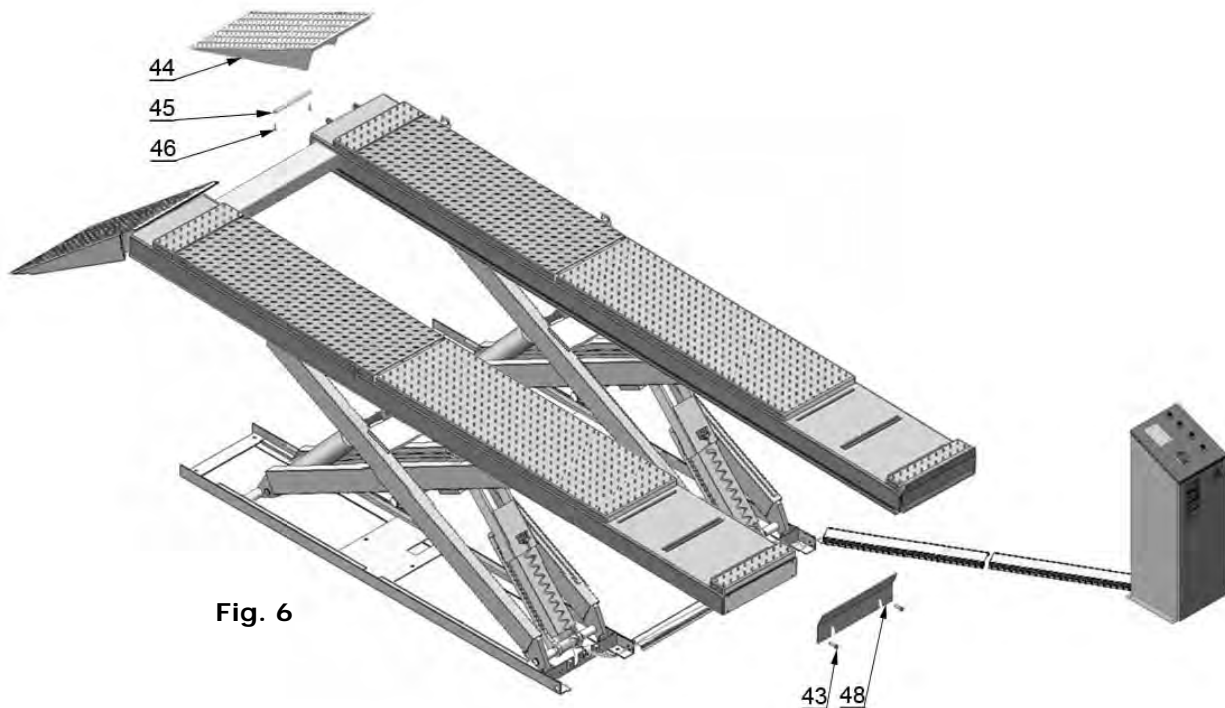

Fig. 6
1.3 Illustration of scissors lift **30-SS1203A** on surface installation (See Fig.6).